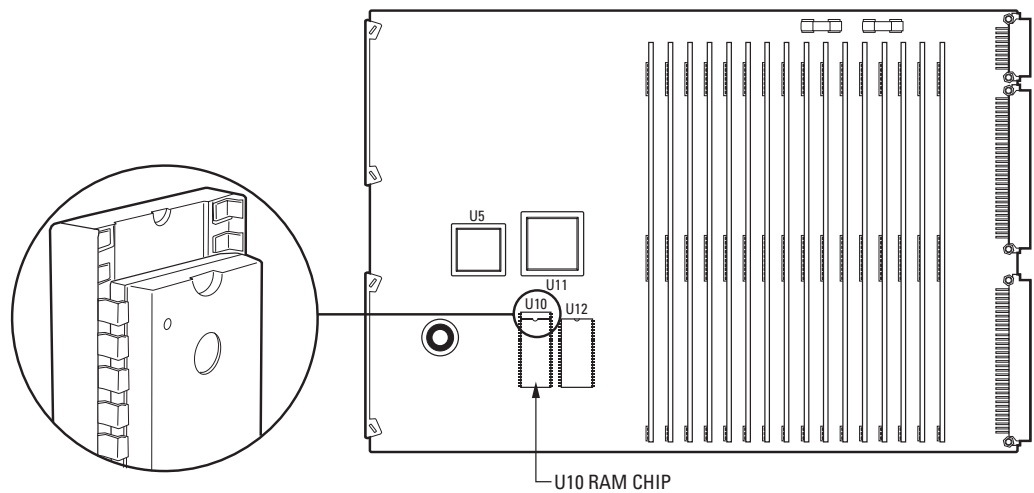

Figure 4. U10 RAM Chip
- a. Locate the existing U10 RAM chip on the video output card (refer to Figure 4). Note the location of the chip in its socket (the top two pins on either side of the socket are not used).